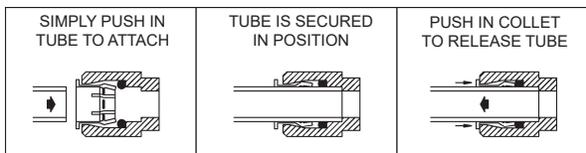

FIG. 8
4. Connect water line from bottle filler nozzle into freeze resistant box. The connection to the box uses a quick connect water fitting. Position the water line, in the fountain, to drain back into interior mounted box. Any water left standing, in the exterior line, can freeze. See Fig. 7 To insert tubing, push tube straight into fitting until it reaches a positive stop. To remove tubing from the fittings, relieve water pressure, push in on dark gray collar while pulling out on the tubing. See Figure 8.